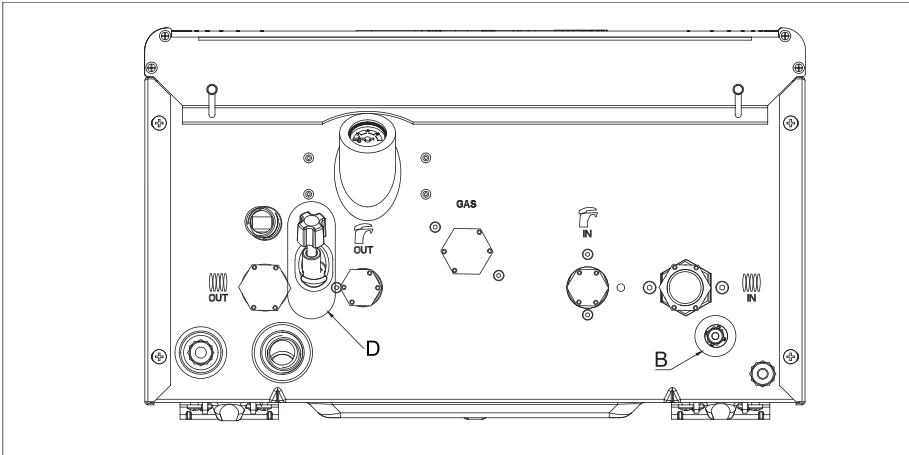

Figure 3. Smart Fit combi boiler bottom view
Smart Fit combi boilers have a manometer on the bottom surface. After all the necessary connections of the combi boiler (electricity, pipes, and flue) are made, filling can be done through the filling tap (D) on the lower left side of the combi boiler (Figure 3).
If the water pressure drops below a certain value, the display shows the error E04. Open the filling tap (D) in Figure 3 to increase the pressure in
If the water pressure exceeds 3 bar, drain the required amount of water into a bucket using the drain tap (B) (Figure 3).